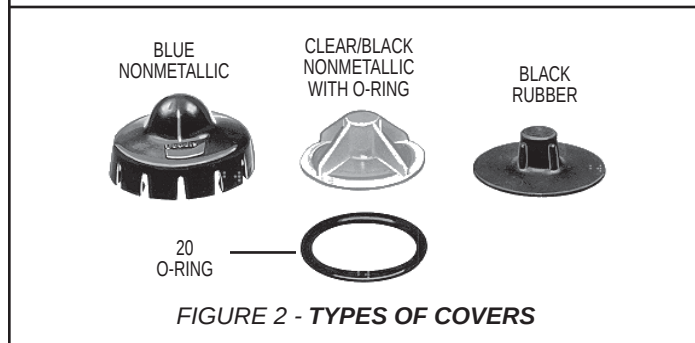

FIGURE 2 - TYPES OF COVERS
3. If the governor has a blue nonmetallic cover, (refer to Figure 2) hold governor with one hand, with the other hand grip cover from the top and pull up with thumb until cover disengages from the governor body. If top cover on governor is made of rubber or clear nonmetallic material unscrew cover until it releases from the adjusting screw (4) of governor. Remove o-ring (20, Figure 2) if present. Note: O-ring (20) is used on Hi-Temp and waterproof governors only.
4. With a pair of retaining ring pliers, remove the spring assembly retaining ring (1) and save.
5. Pull the adjusting screw (4) and spring assembly out of the governor body (2).
If cover provided in kit is black rubber, (refer to Figure 2) install by pushing it onto the adjusting screw.